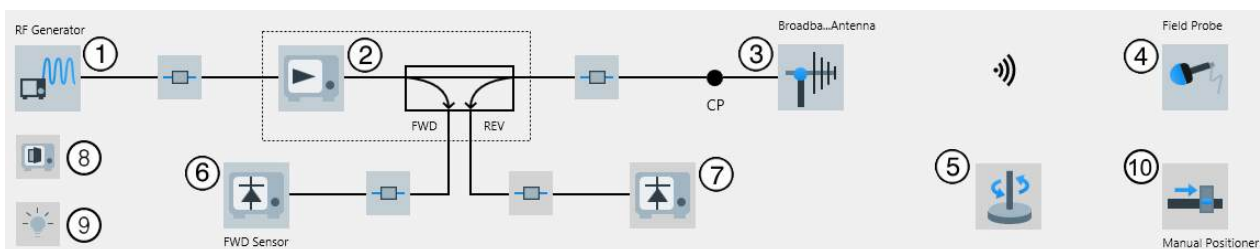

Figure 4-153: EMS hardware setup diagram (radiated) for an Anechoic Chamber in Calibration View
- The "Calibration View" (see Figure 4-153)